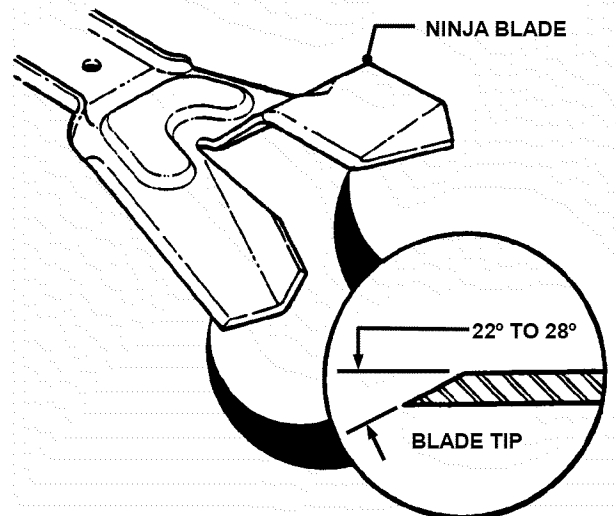

FIGURE 4.25
5. Sharpen all cutting edges of the Ninja recycling blade at an angle of 22 to 28 degrees for optimum performance. See Figure 4.25.